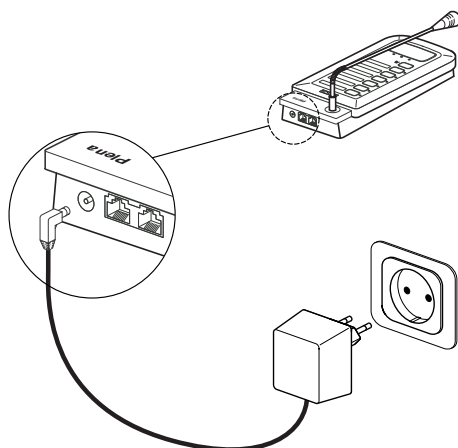

Figure 5.23 Connecting a power supply
If the cable between the voice alarm controller or the previous call station is longer than 100 m, the call station must be connected to a 24 V(DC) power source. See *Figure 5.23* for connection details.